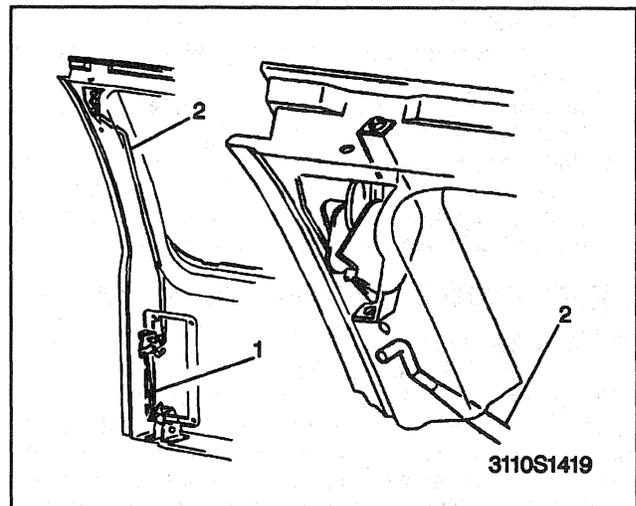

Figure 94—Upper Latch Control Rod
↔↔ Remove or Disconnect (Figures 94 and 95)
4. Control rod from latch (Figure 94).
↔ Install or Connect (Figures 94 and 95)
3. Control rod to latch (Figure 94).